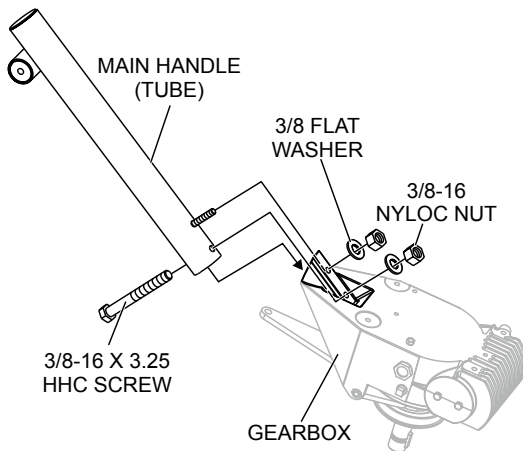

Figure 5. Handle Tube Installation
1. Attach the main handle (tube) to the gearbox as shown in (Figure 5). The mounting hardware should be contained in the shipping container.